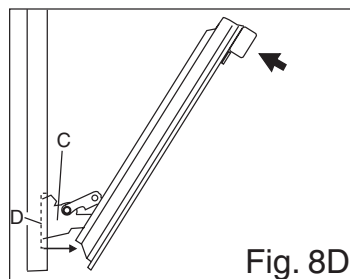

Fig. 8D
- 5) Using both hands, push the oven door lightly inwards, to enable the door hinges **"C"** to come away from the slots **"D"** (see fig. 8D) and pull the door towards you until it is released from the oven. After cleaning it, reposition it correctly following the abovesteps in the reverse order and flipping hooks **"A"** inwards before you shut the oven door (fig. 8E).